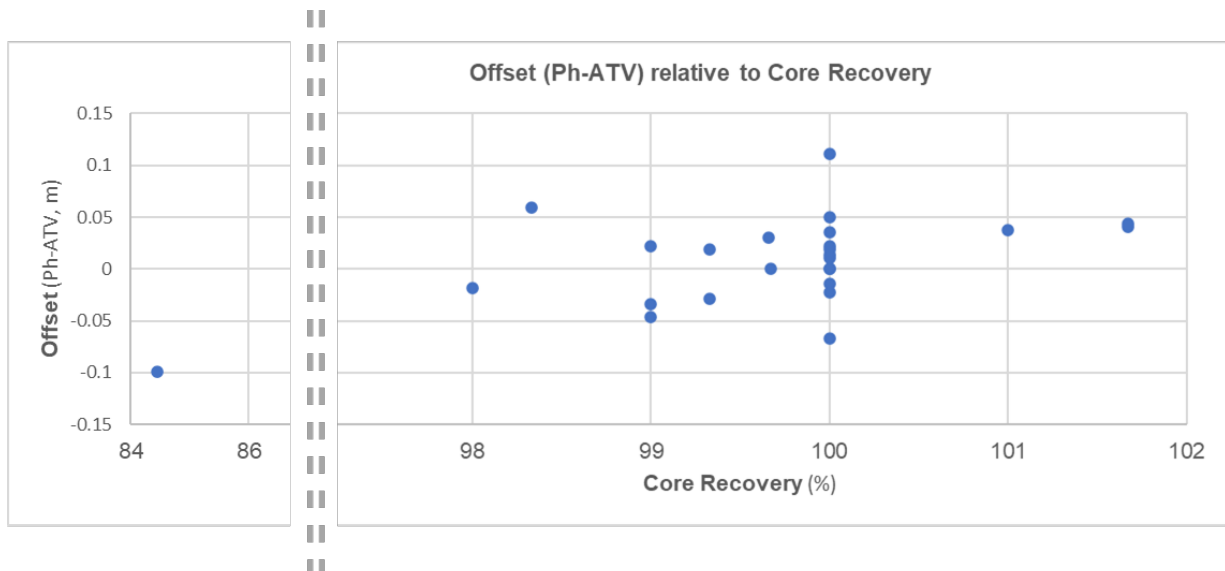

Figure 6 Core to ATV Offset Relative to Core Recovery
4. To assess whether the offset is related to core recovery the two parameters are cross plotted in Figure 6. The analysis confirms that there is no obvious systematic variation between the offset between core and the ATV image and the differences appear random. Since the ATV is continuous and systematic the nominal offset of ± 5 cm (with few exceptions; average absolute offset = 3.4cm) is likely related to drilling, core recovery and processing.